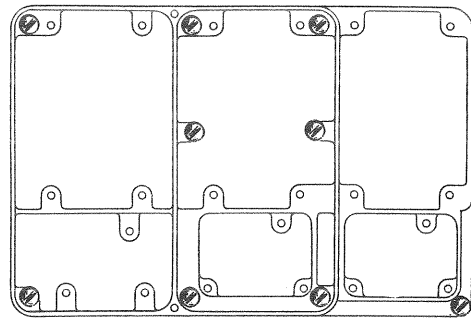

Figure 27—Screws to be removed in replacing trimming condenser
- (b) Remove the shield and eight machine screws and nuts as shown in Figure 27. This allows the bottom plate of the assembly to be dropped sufficiently to gain access to the tuning condenser.